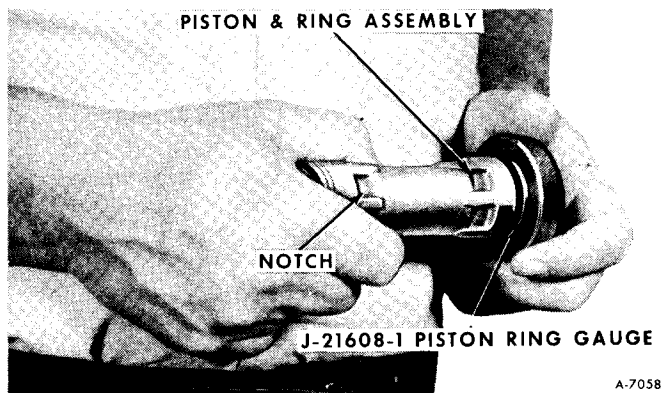

Figure 120—Gauging Piston Ring Size
8. Remove the piston and ring assembly, wipe the end of the piston and ring area with a clean cloth and then push the piston and ring assembly into the ring gauge J-24608-1 (figure 120). The piston should go through the ring gauge with a 6 lb. force or less without lubrication. If not, repeat Steps 6 and 7.